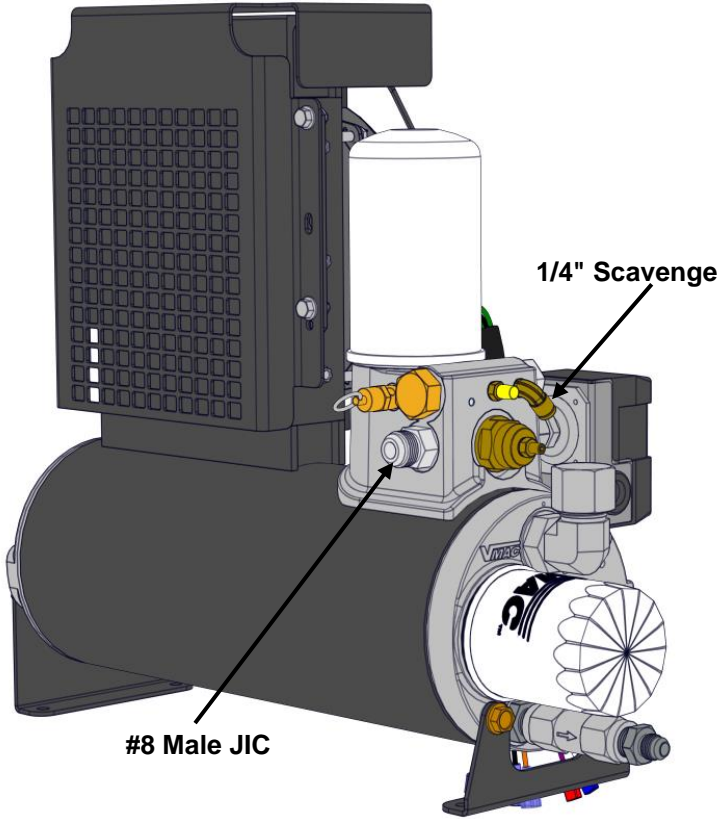

Figure 6.2 – WHASP Scavenge and Output connection
- Connect the 1/4" PTFE tube to the 90° quick-connect fitting on the WHASP tank (Figure 6.2).
- Connect the output fitting (#8 male JIC) to the remainder of the customer's air system (not supplied) (Figure 6.2).